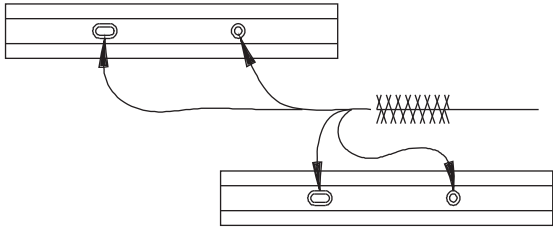

Figure 8-6 Scraper Blade pin holes
- e. the beater shaft and the scraper blade pin holes, as shown in figure 8-6.